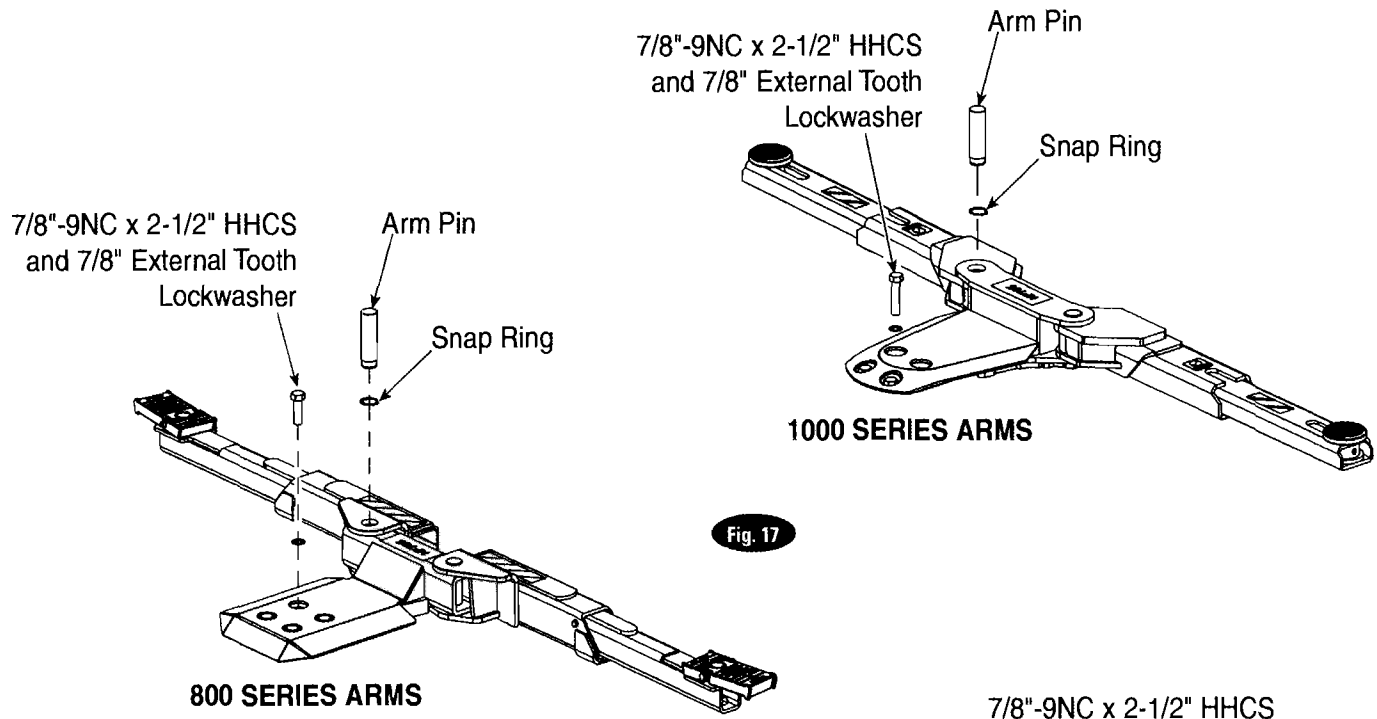

Fig. 17
1. Install yokes to plungers with 7/8"-10NC x 2-1/2" HHCS and 7/8" external tooth lockwasher. Torque to 150 ft-lbs, Fig. 17.
3. Install (4) arm assemblies using the arm pins and snap rings.